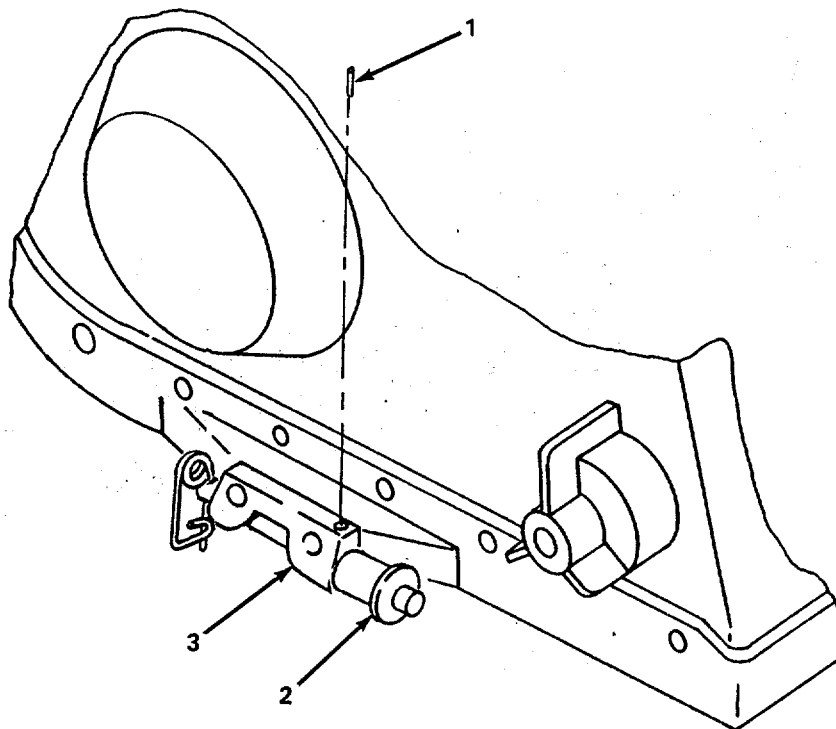

Figure 4-22. Roll Pin, Replace.
(2) *Replace rollpin.* (figure 4-22)
- (a) Remove roll pin (1).
- (b) Ensure flat on quick release pin (2) is facing helmet ring (3).
- (c) Install roll pin (1).